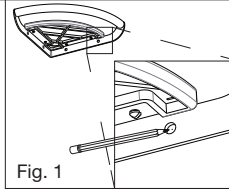

Fig. 1
4. Mark the (4) mounting hole locations from the shelf support bracket to the wall. If installing over ceramic tiles, place masking tape on the mounting area before marking the hole location. **(Fig. 1)**